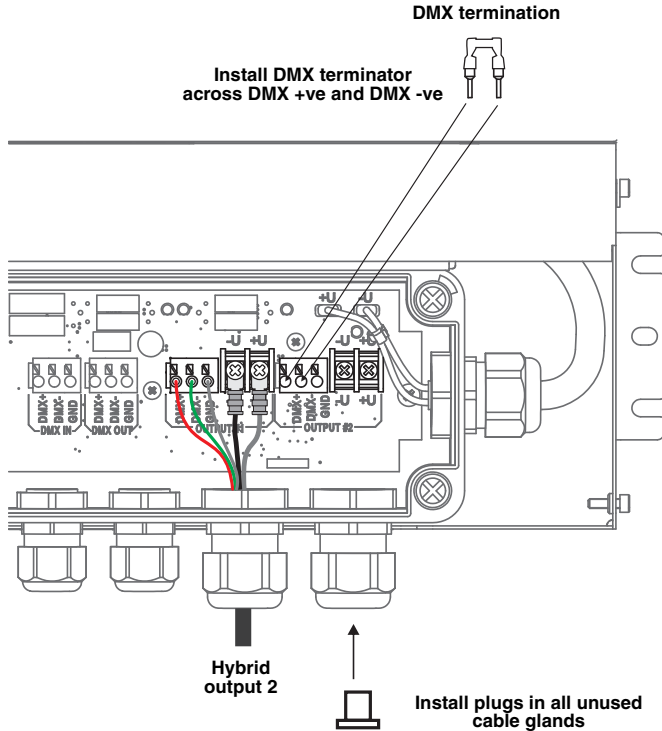

Figure 16: Terminating an unused hybrid link in a PSU
6. If you are not going to create a second hybrid link from the PSU to a Splitter or Luminaire, see Figure 16: